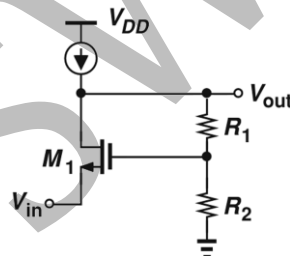

Fig 1.3.
- e) Determine expressions for the open loop gain, feedback factor, and closed loop output impedance for the circuit shown in Fig 1.3 (excluding r_o). [5]